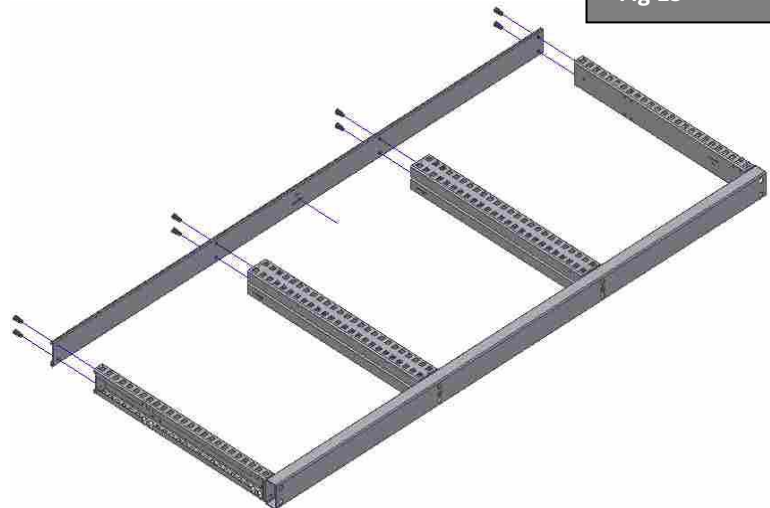

Fig 15
STEP 3c – Position the C-shaped profile on the **frame** (Fig. 15).